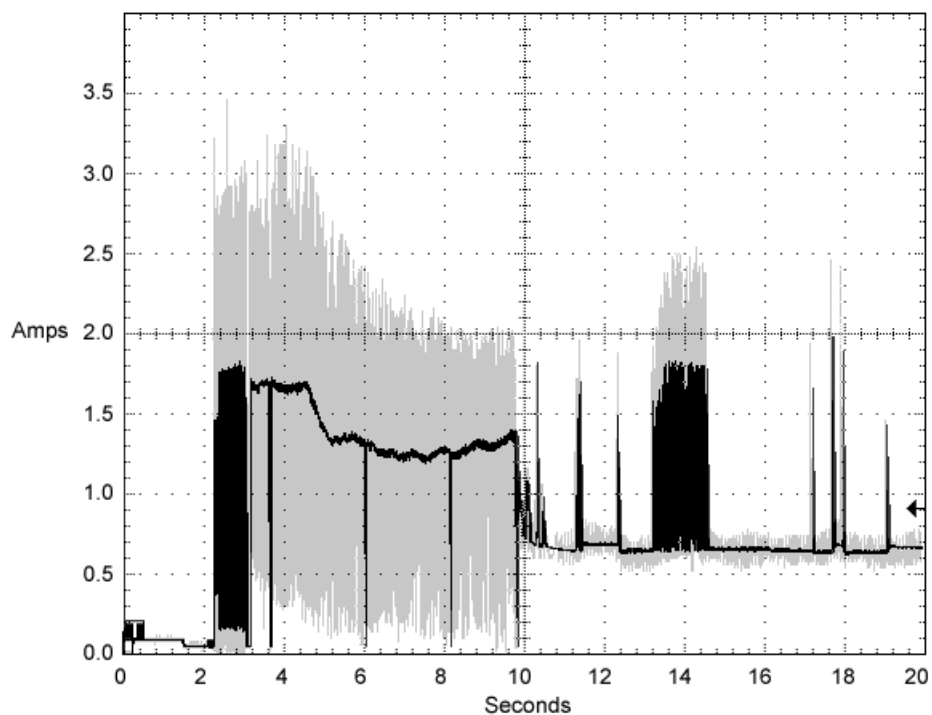
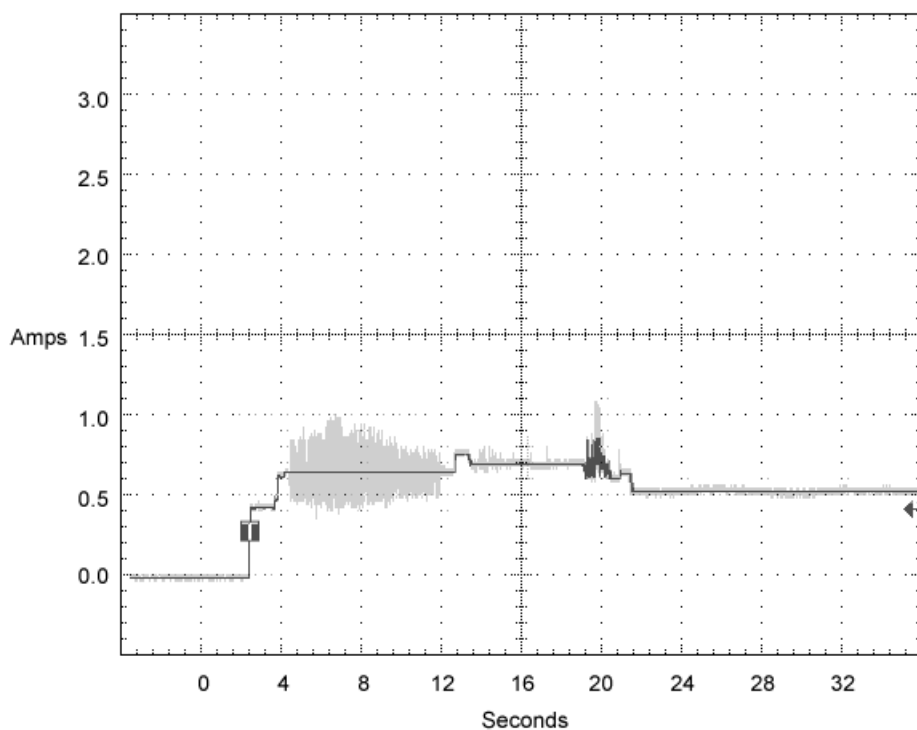

Figure 2. Typical ST3300007 drive +12 V current profile
Figure 3. Typical ST3300007 drive +5 V current profile
- [3] See +12 V current profile in Figure 2.
Figure 2, 4 and 6 identify the drive +12 V current profiles and figures 3, 5 and 7 identify the drive +5 V current profiles. The current during the various times is as shown: